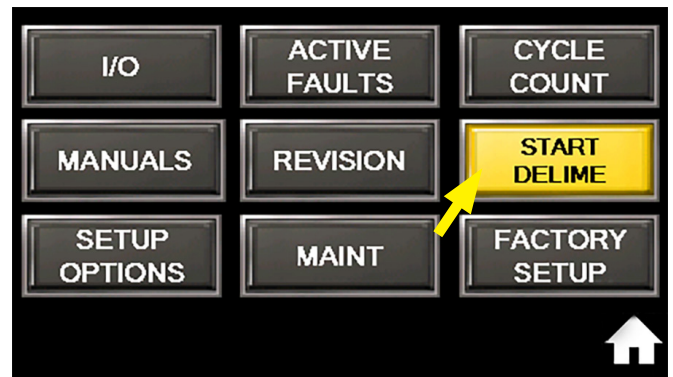

Fig. 60 - Start delime
2. Press START DELIME to begin a deliming operation, (Fig. 60).